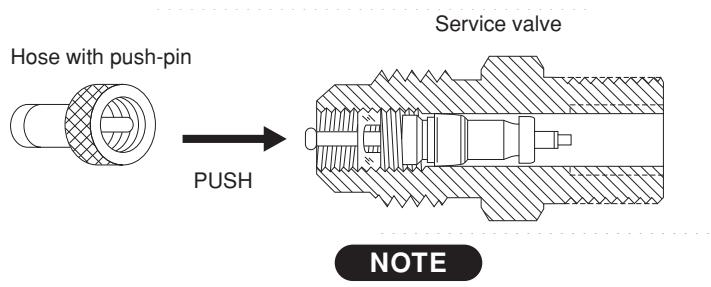

Fig. 32
* The service port on the wide tube service valve uses a Schrader core valve to access the refrigerant system. Therefore, be sure to use a hose connector which has a push-pin inside. (Fig. 32)